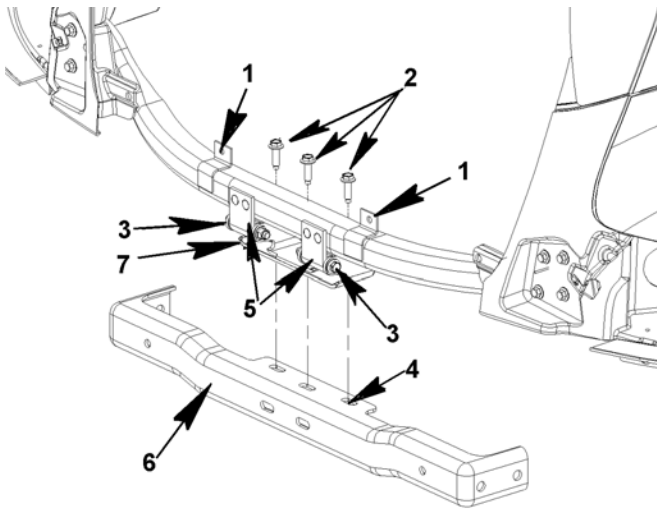

Figure 92 Hood Hinge Mounting Plate
5. With hinge plate in aligned position, tighten hinge plate mounting bolts (Figure 92, Item 2). Tighten the hinge plate mounting bolts to required torque value.